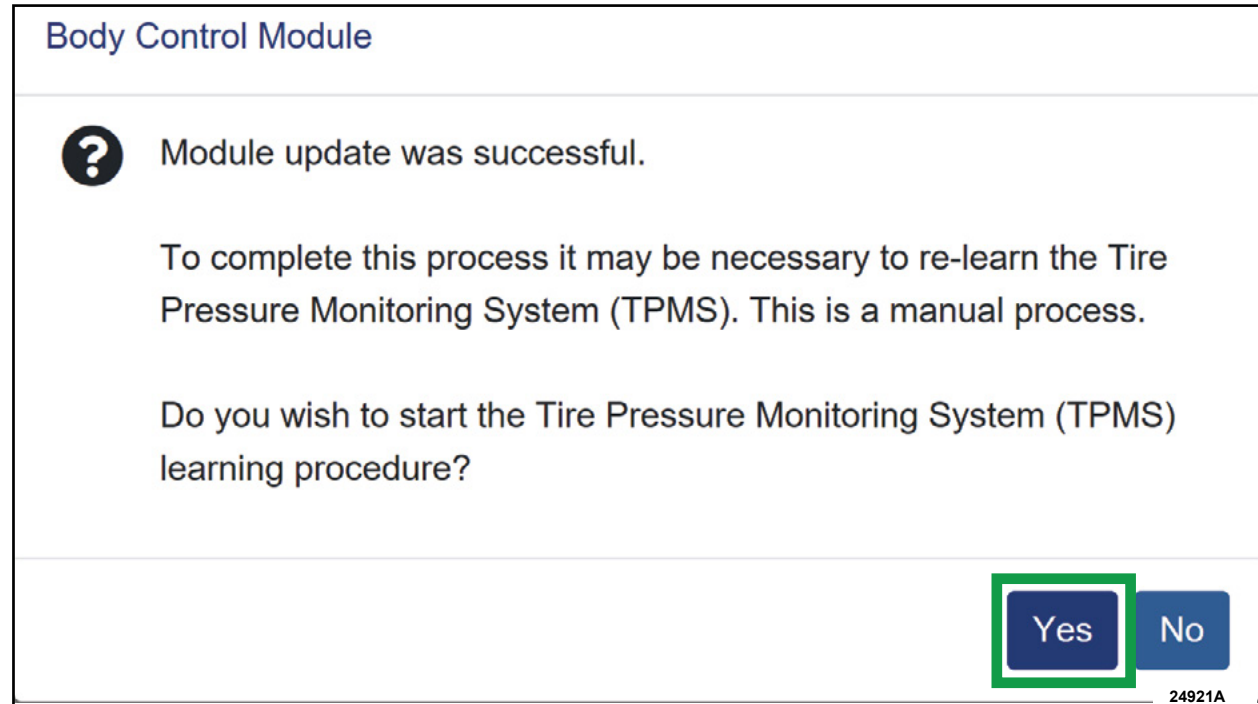

FIGURE 1
8. Re-learn the Tire Pressure Monitor System (TPMS) during the BCM software update. Follow the Workshop Manual (WSM) Procedures in 204-04B. See Figure 1.